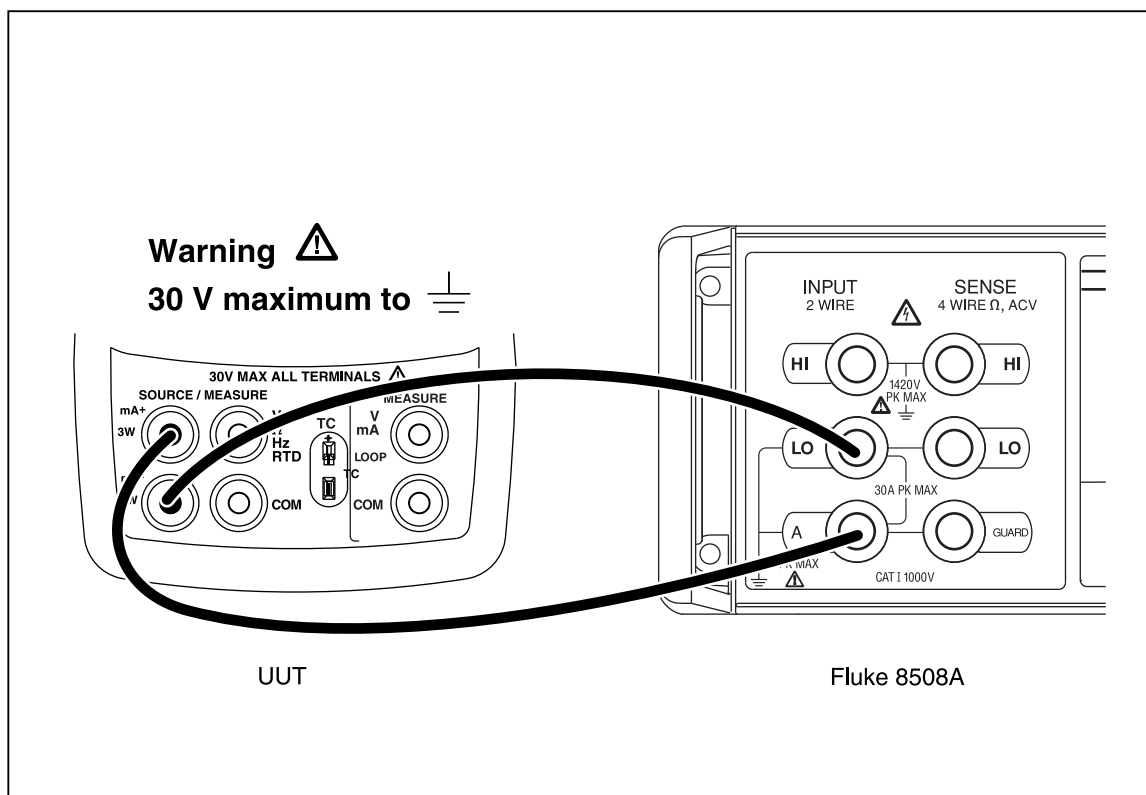

Figure 11. Lower Display mA Source Connections
3. Connect the UUT and the Fluke 8508A as shown in Figure 11.